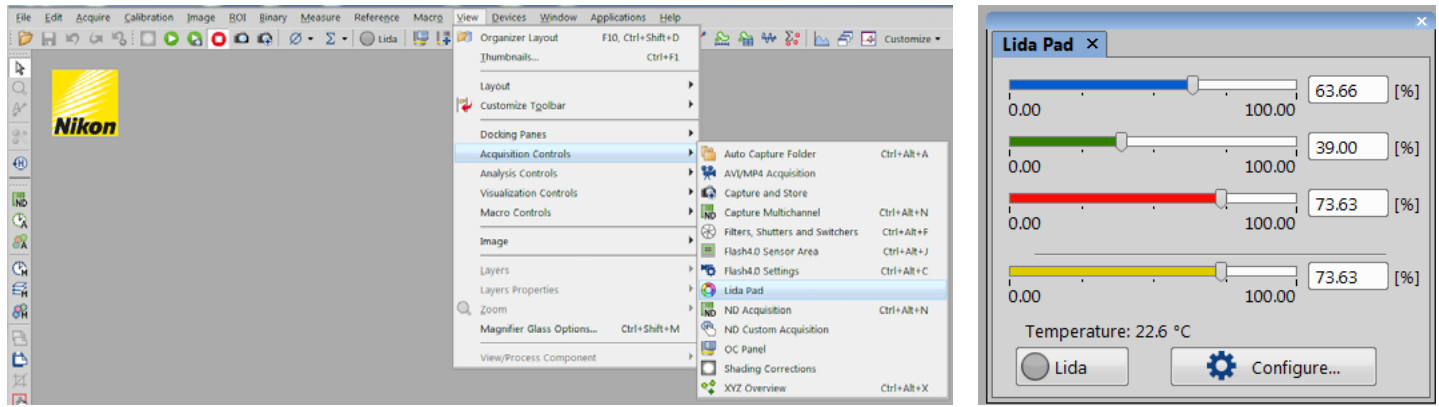

Figure 4. (Left) How to access the Lida control pad: View> Acquisition Controls > Lida Pad. (Right) Lida control pad.
7. Move the specimen to place the field of view of interest under or above the objective. Start live acquisition (Figure 4). System will then acquire and display near real-time color images.